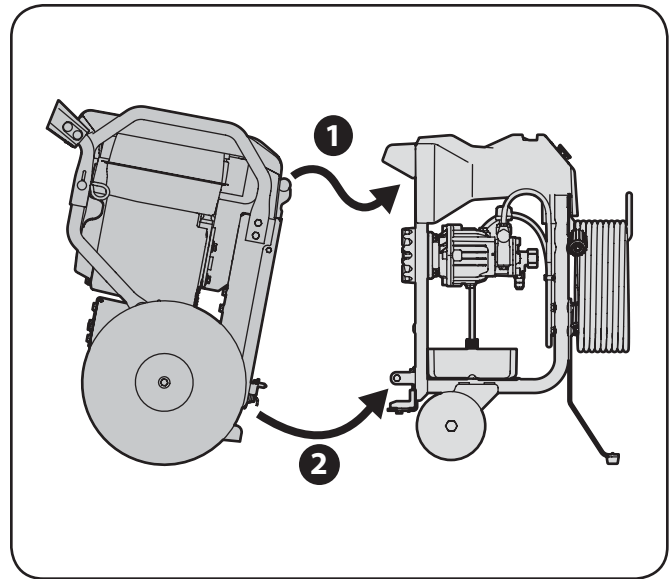

Figure 5-2
2. Tip the FLEX™ Power Base forward until the power base hinge is in place under the mounting handle (1), and push down firmly on both handles until you hear the Latch-n-Lock™ System click into place (2) on the pressure washer attachment. See Figure 5-2.